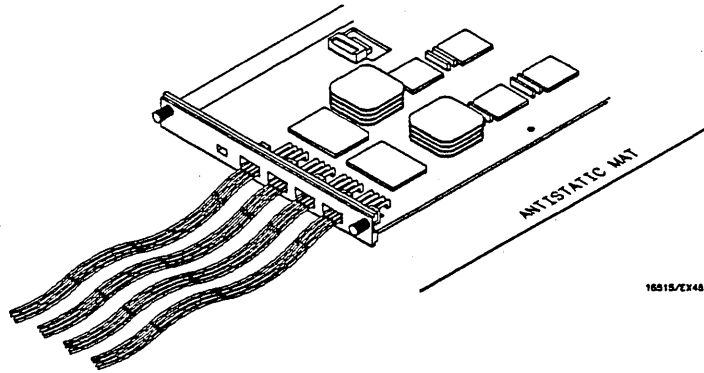

Figure 6-15. Cable Position
- To reinstall module, lay probe assemblies flat and pointing out to the rear of card. See figure 6-15.